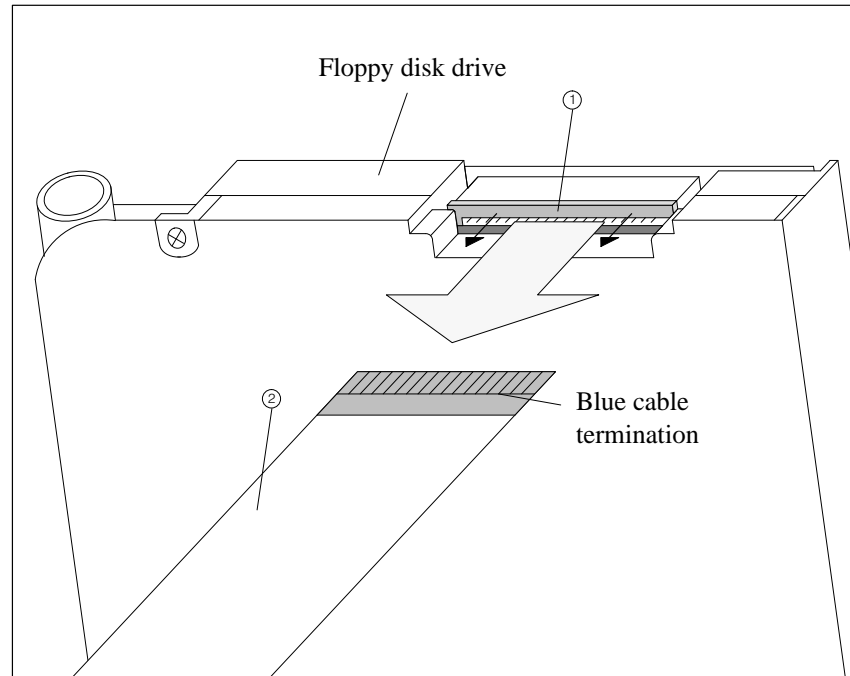

Figure 6-5 Open clamp lock and detach ribbon cable connector
1. Slide the connector cover ① in the direction of the arrow as shown in Figure 6-5.
2. Disconnect ribbon cable ② .